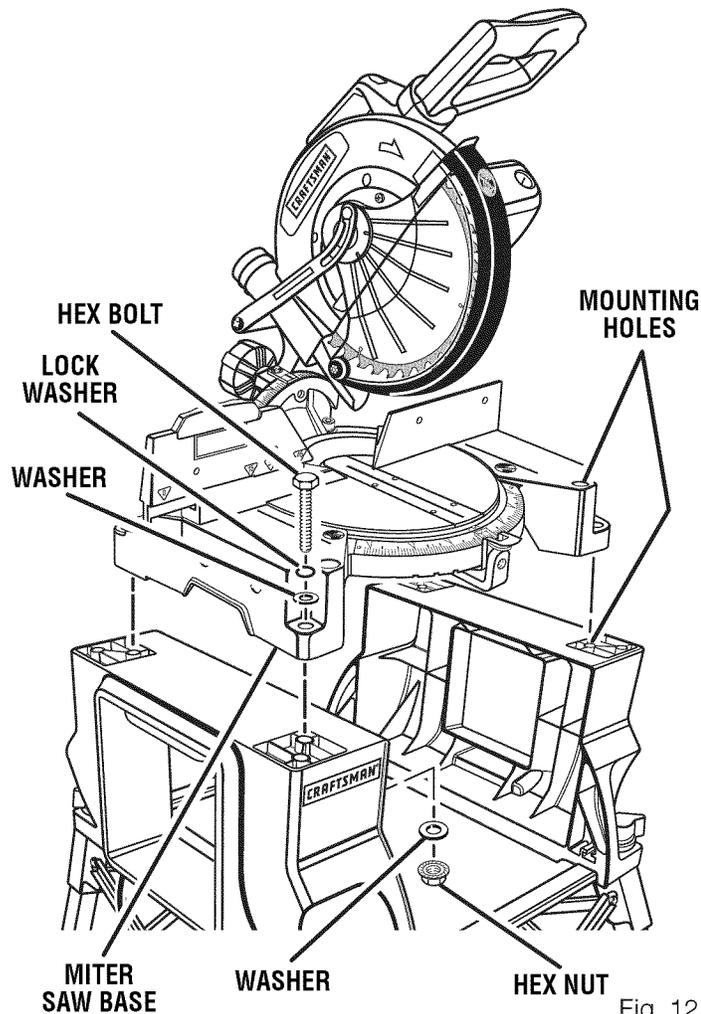

Fig. 12
See Figure 12.
- Insert the supplied 3/8 in. machine bolts through the holes in the miter saw base. Each of the four mounting holes should be bolted through the miter saw base securely using supplied 3/8 in. machine bolts, lock washers, and hex nuts as shown in figure 12.